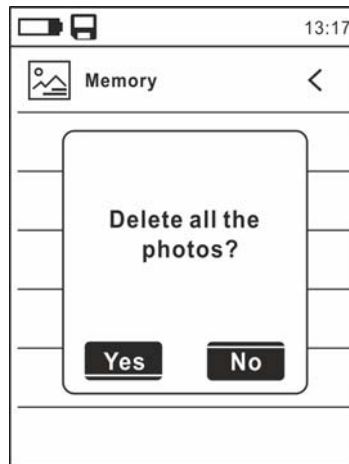

Fig. 18: Deleting all saved images
27. Press key ≡ on the recalled image. The screens in Fig. 18 appear on the display.